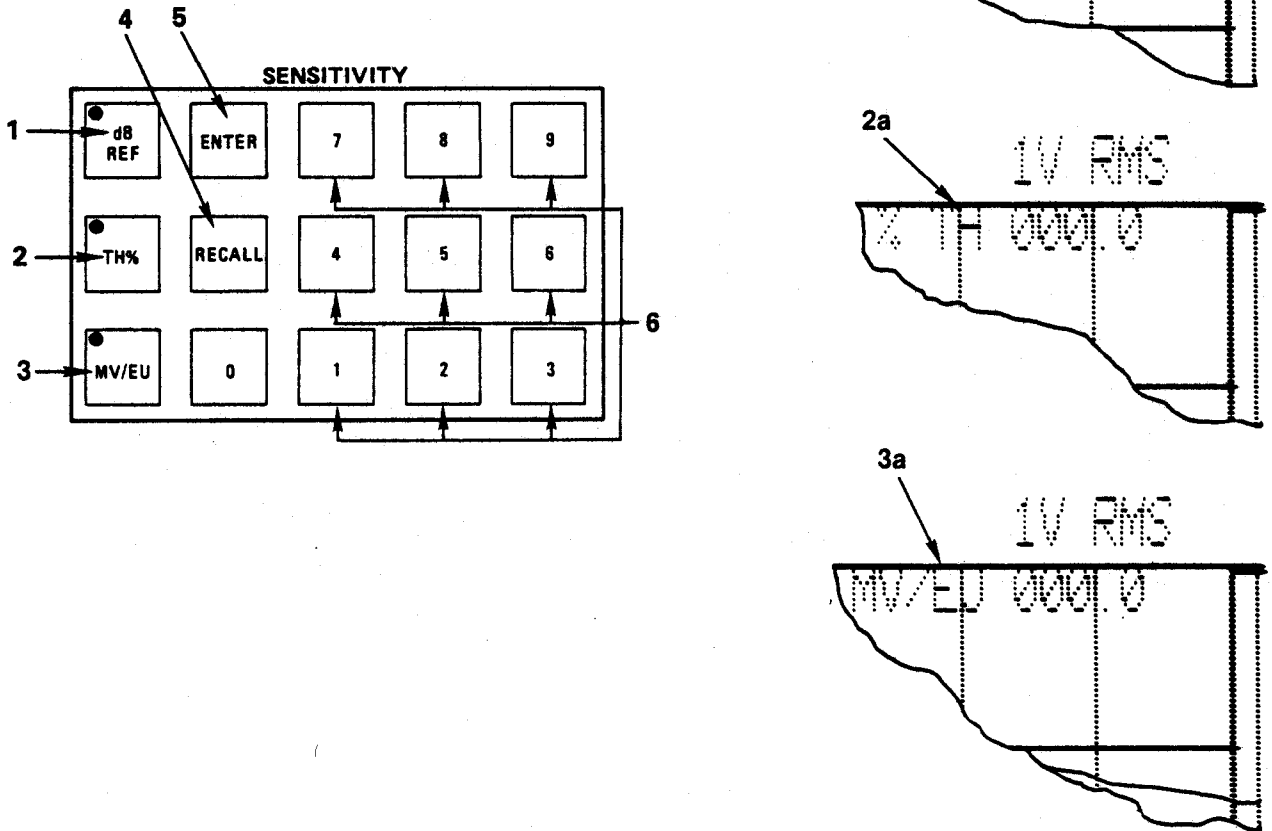

Figure 3-7. SENSITIVITY Group Touch Controls and Portions of the CRT Display.
- 1.** This touch control is used to select dB reference at any point on the display. Depressing this control will light the LED on the dB REF control and the display will appear as shown in Figure 3-7, example **1a**. Move the cursor to the desired reference point and select the dB value via the keyboard numbered controls (refer to **6**). This is accomplished as follows: If it is desired to reference the selected point to 40 dB, depress the dB REF control, depress the number four on the keyboard and depress the zero twice. The display as illustrated in Figure 3-7, example **1a**, will now read dB REF 040.0. When this is accomplished, depress the ENTER control. The crt grid scaling will change to conform with the selected dB reference (refer to Figure 3-5a, **11**, **12**, **13**) and the information as illustrated in Figure 3-7, **1a** will disappear from the display after a few moments. If it is desired to recall the value entered, depress the dB REF control and then the RECALL control. dB REF cannot be selected while in the TIME, RT dual display mode of operation (refer to Figure 3-6).
- 2.** This touch control is used to select threshold percentage for the transient capture function. Depressing this control will light the LED on the TH% control and the display will appear as shown in Figure 3-7, example **2a**. Selection, entering, recalling and changing values is the same as described in **1**.
- 3.** This touch control is used to select transducer sensitivity in units of mV/EU. Depressing this control will light the LED on the mV/EU control and the display will appear as shown in Figure 3-7 example **3a**. Selection, entering, recalling and changing values is the same as described in **1**.